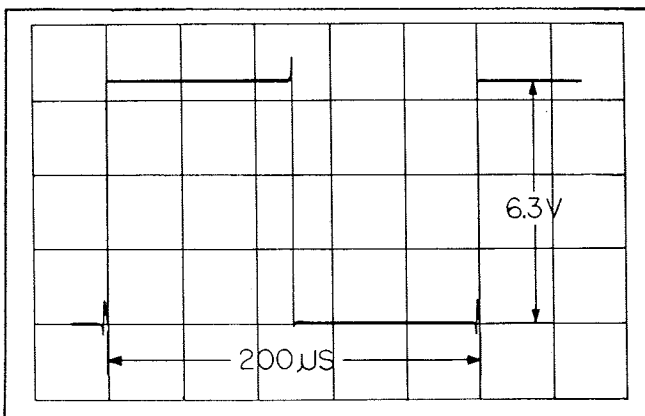

Figure 6.19 - Q11, Collector Waveform
m. Reconnect oscilloscope to collector of 5 KC multivibrator stage Q11 (or top of R32). The observed waveform should resemble the one shown in figure 6.19.